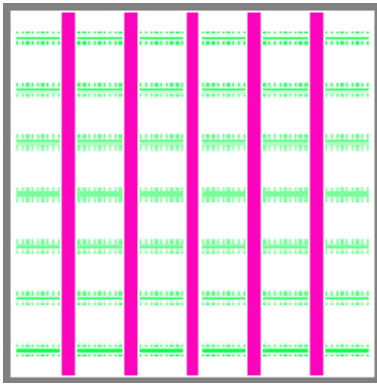

Fig. 3. TE_{1,0} mode of a Hollow Metallic Rectangular Waveguide.
- TE_{1,0} and TE_{1,1} modes of a Hollow Metallic Rectangular and Flexible waveguides are shown in figures 3 and 4 respectively.